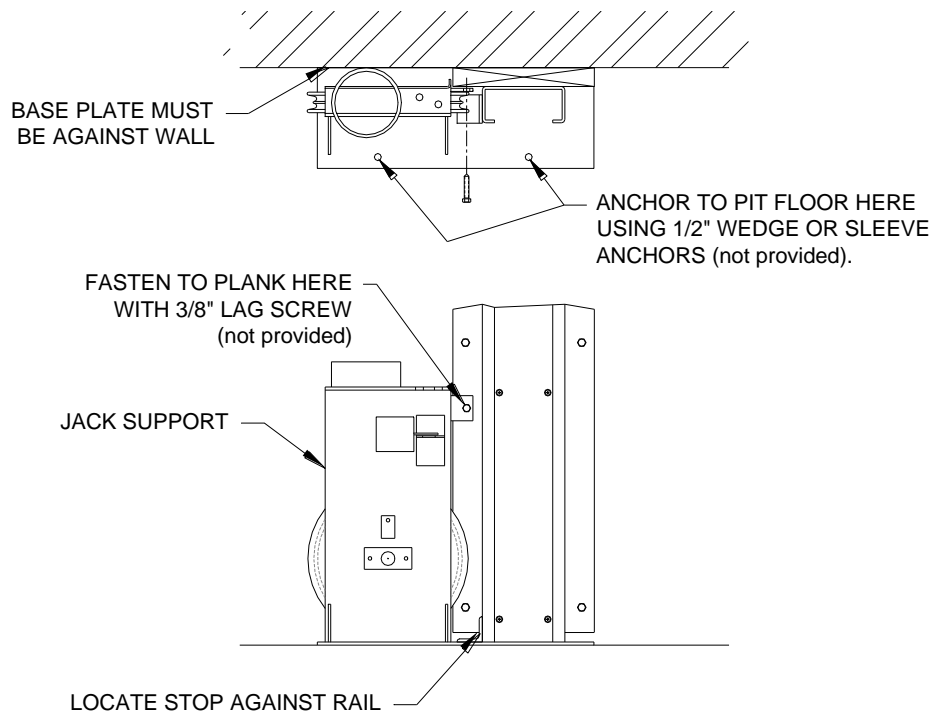

Figure 4
Install both trolley and upper axle into the bottom section of rail before installing the next rail section. See instructions below and Figure 4.
- Complete installation of Jack Support Assembly by anchoring to pit floor and 2 x 12 plank. Be certain the support is plumb before fastening to floor and plank. Refer to Figure 4.